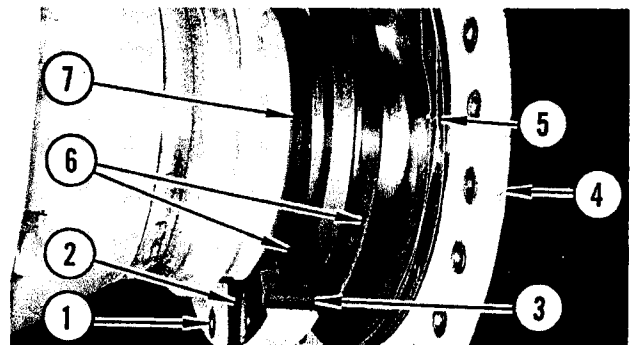

FIGURE 114. AXLE CARRIER REMOVAL
Refer to Figure 114. Remove four cap-screws and lockwashers from each of the three seal retainers (1). Remove seal retainers. Remove upper and lower halves of axle carrier flange (2).